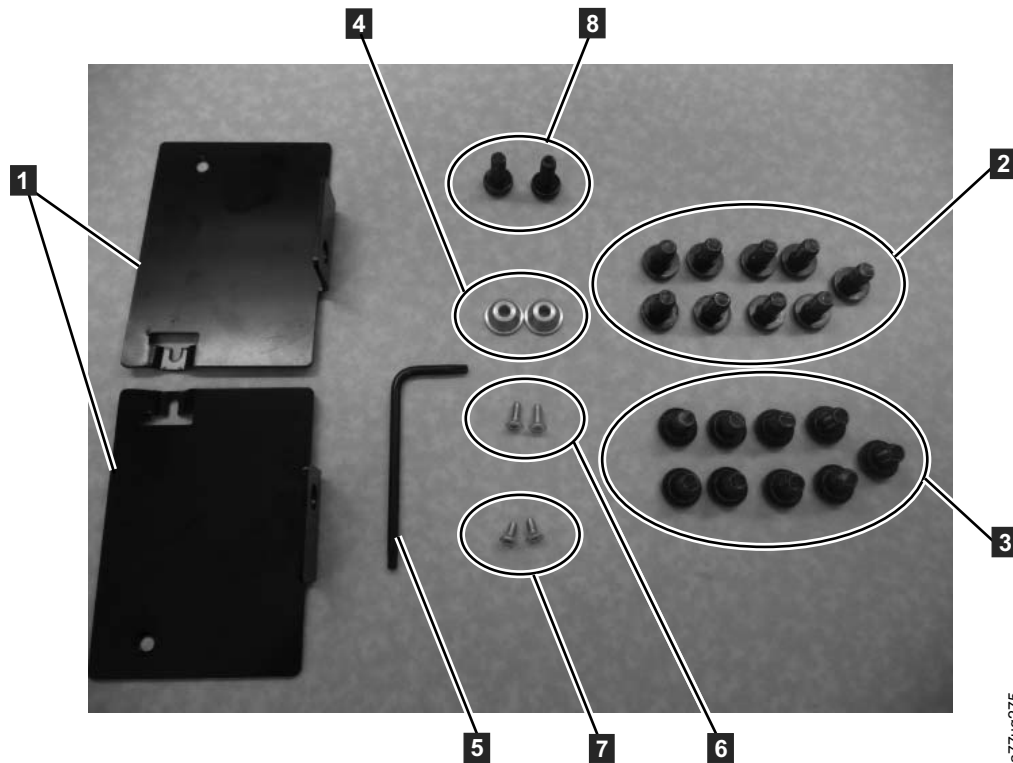

Figure 4-6. Rack Kit A mounting hardware
1. Verify which rack kit was included in your shipment. Although there are two different rack kits, the steps to install them are the same. After verifying which Rack Kit you received, see Figure 4-6 on page 4-7 for the installation steps.
- 2 mounting brackets ( **1** in Figure 4-6)
- 1 Torx wrench ( **5** in Figure 4-6)
**Note:** Eight (8) screws are needed for the installation. One additional screw is provided for security.